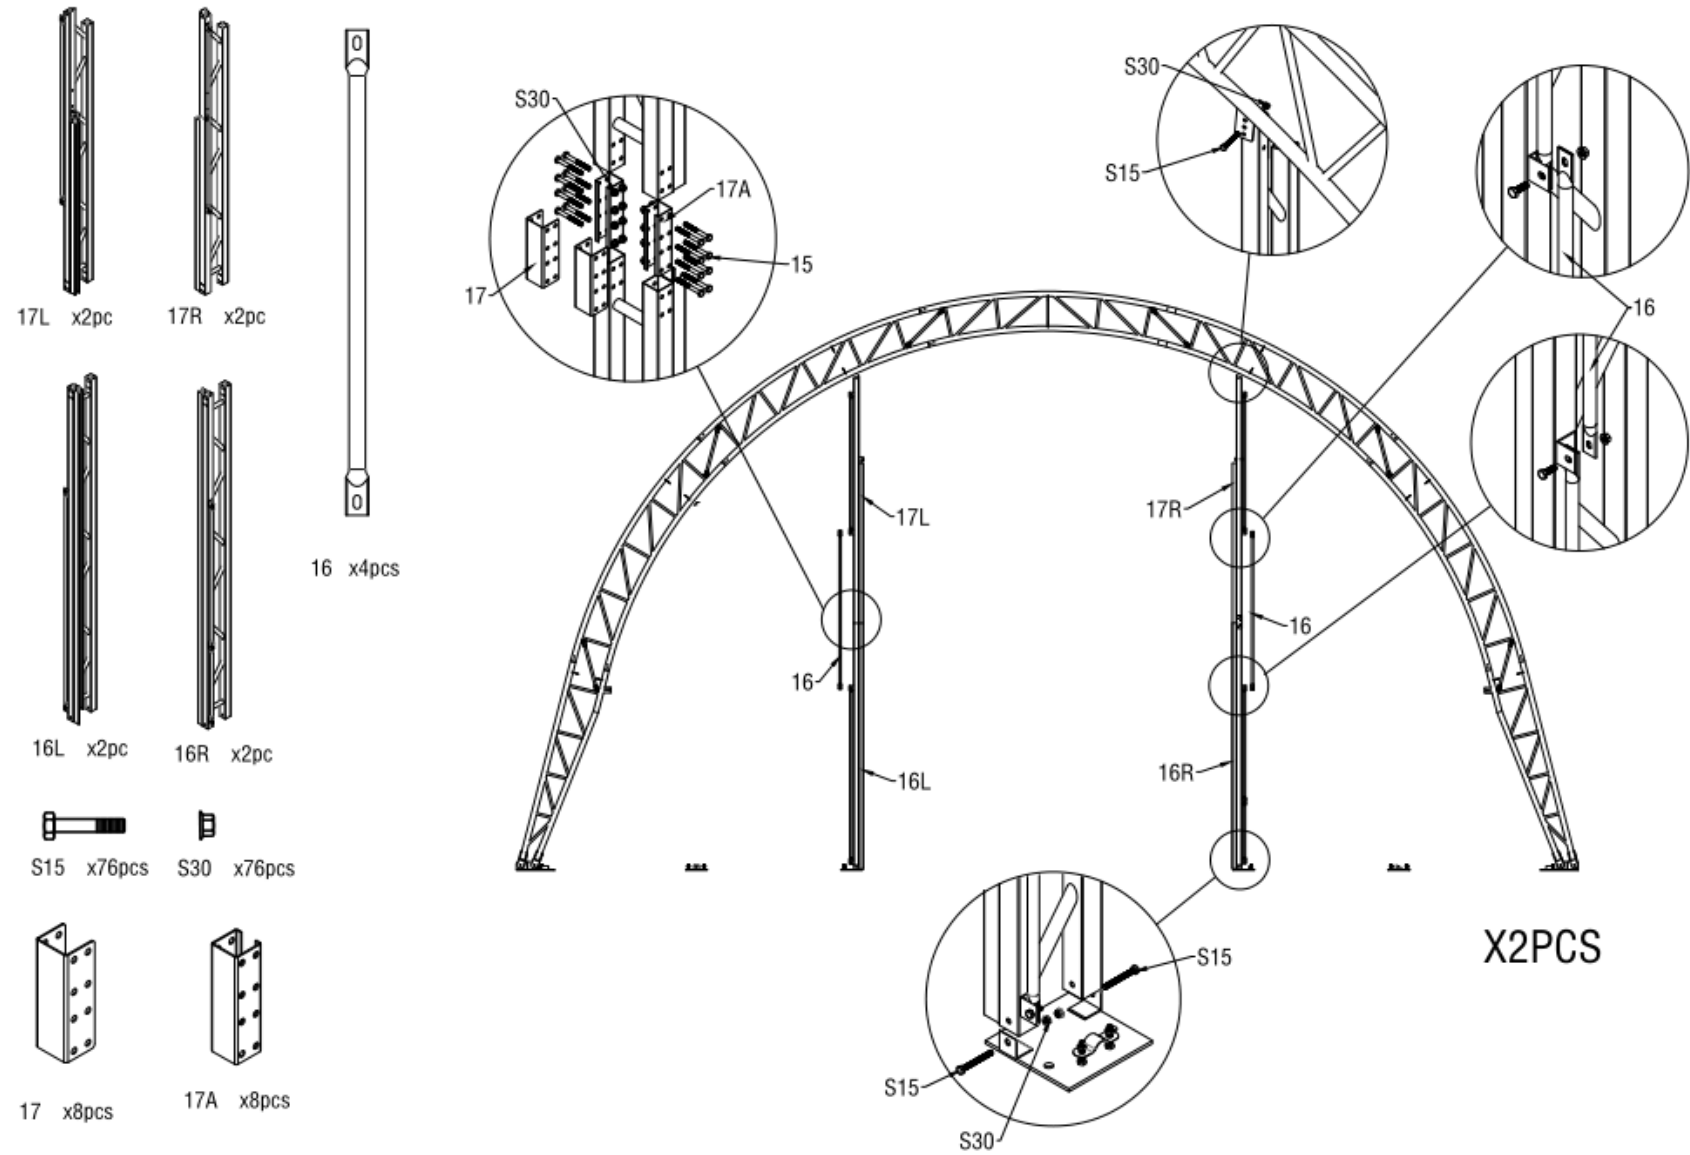

Figure 11
1. Find the relative components and assemble the front and back door accordingly(Figure 11, 12,13)